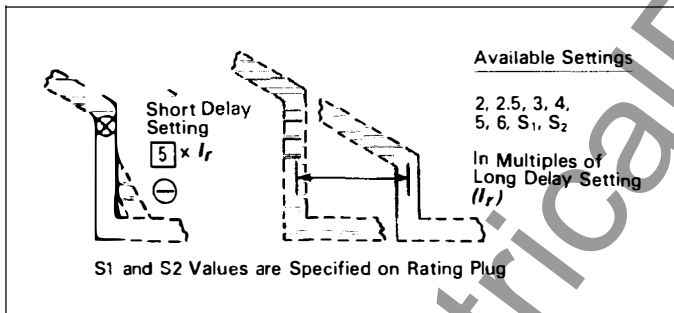

Fig. 4.3 Short Delay Current Settings
There are eight (8) available Short Delay Current Settings, as illustrated in Fig. 4.3. Six settings are in the range from 2 to 6 times I_r and the other two settings are "S1" or "S2" times I_r . (REMEMBER: I_r is the Long Delay Current Setting). The values that "S1" and "S2" have depend upon the type of circuit breaker, and are specified both on the rating plug label (see Fig. 6), and on the applicable Time-Current Curves referenced in Section 9.0.